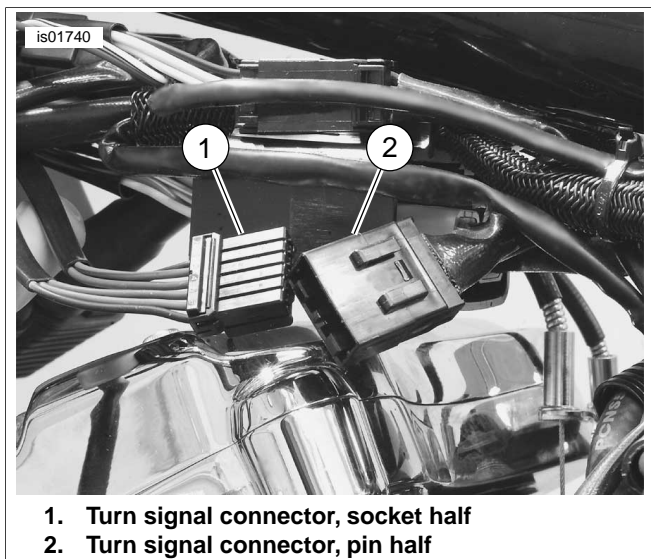

Figure 20. Sportster Front Turn Signal Connector
1. See Figure 20. Locate and separate front turn signal connector (6-place multilock) under fuel tank. Note wire color and cavity locations.